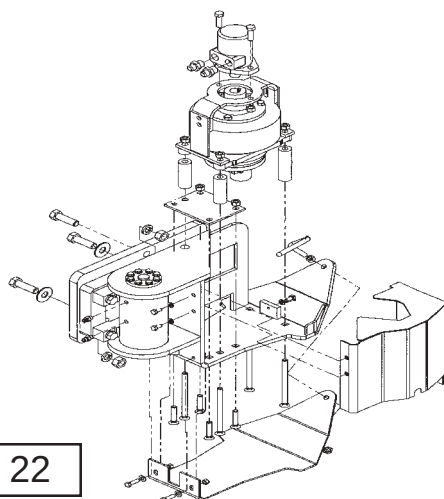

Figure 22
3. Looking down at the planetary drive (and Hydraulic Motor Assembly) there are four nuts in the plate that is attached to the drive assembly. Remove these four nuts, if you want to remove the four carriage bolts the skid shoe will have to unbolted and removed. When lifting the drive assembly up and away from the cutter bar take notice of the four tube spacers under the drive assembly, there are two different length of the spacers. The short ones go to the rear and the long ones go to the front (See Figure 22)
7. The Hub Adapter is bolted to the Flywheel with four bolts, the flywheel is pressed down over the top shaft of the drive subassembly. The Knife stud bearing support bolts to the bottom of the drive subassembly with two bolts. The Knife drive stud bearing bolts to the support bracket (See Figure 27). If you unbolted the stud drive and left it in the cutter bar it should be removed and inspected. This stud drive is a sealed bearing drive assembly, there are no replaceable parts in it so it can only be replace as an assembly. To check the stud drive bearing assembly hold the top where the two bolts mount it to the support bracket. Grab the OD of the stud drive and the outer cover should spin freely while the top for the two bolts will not, it should not be rough or out of round. To work properly it must be free and smooth turning. Check the nylon bearing in the knife head weldment, it has to be in good condition also. This nylon bearing does not turn when installed, it acts solely as a bushing between the clamp and stud drive bearing assembly and prevent the clamp from crushing the drive stud bearing. (See Figure 22, 23 & 27)
- 8.** To reassemble the Knife Drive Assembly reverse the disassembly steps but first the cutter bar must be made ready. If the drive stud assembly was not removed from cutterbar knife head weldment (See Figure 22, 23 & 27) and you do not plan to loosen the clamp around the nylon nearing on knife drive stud, you will not need to do this. IF the drive stud is removed the cutter bar head clamp will need to be prepared. Loosen the clamp bolt to where the nylon bearing (bushing) can be installed into the clamp, reinstall the clamp bolt into clamp **BUT DO NOT** tighten clamp bolt. Insert the drive stud bearing into the nylon bearing of clamp, still **DO NOT** tighten the clamp bolt.